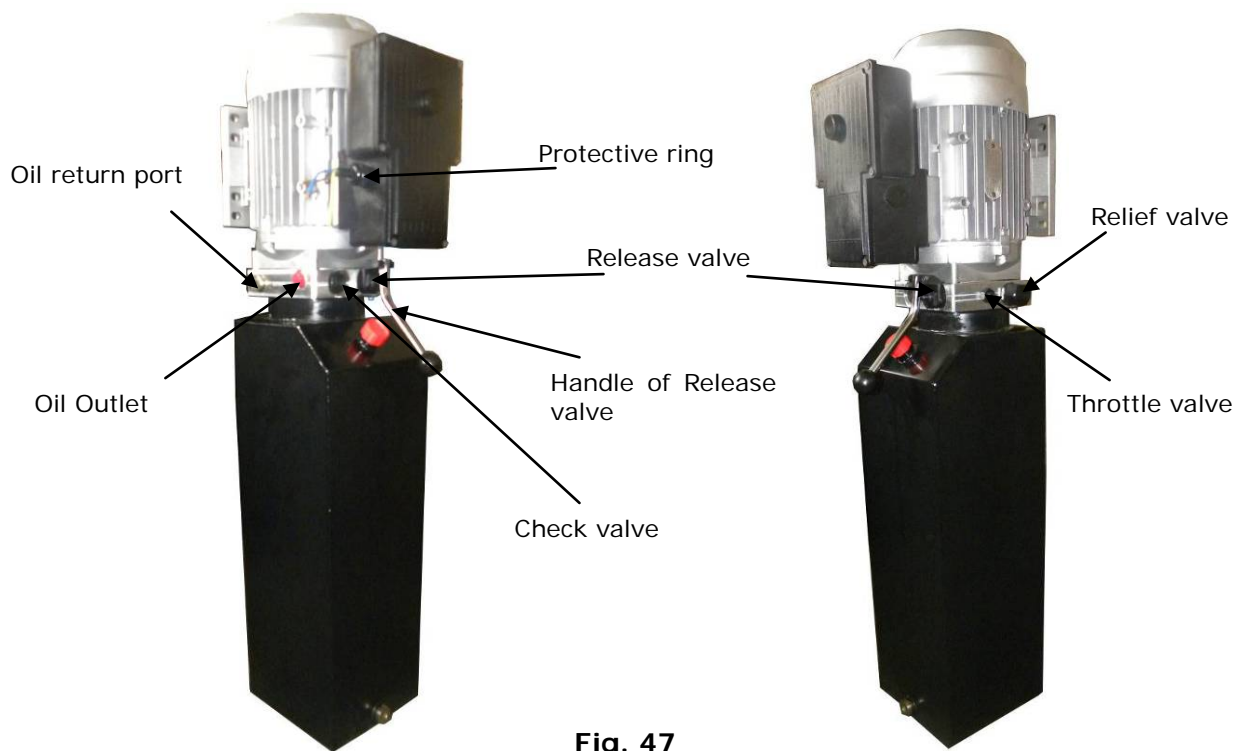

Fig. 47
a. Manual power unit, 220V/60HZ, Single phase (See Fig. 47)